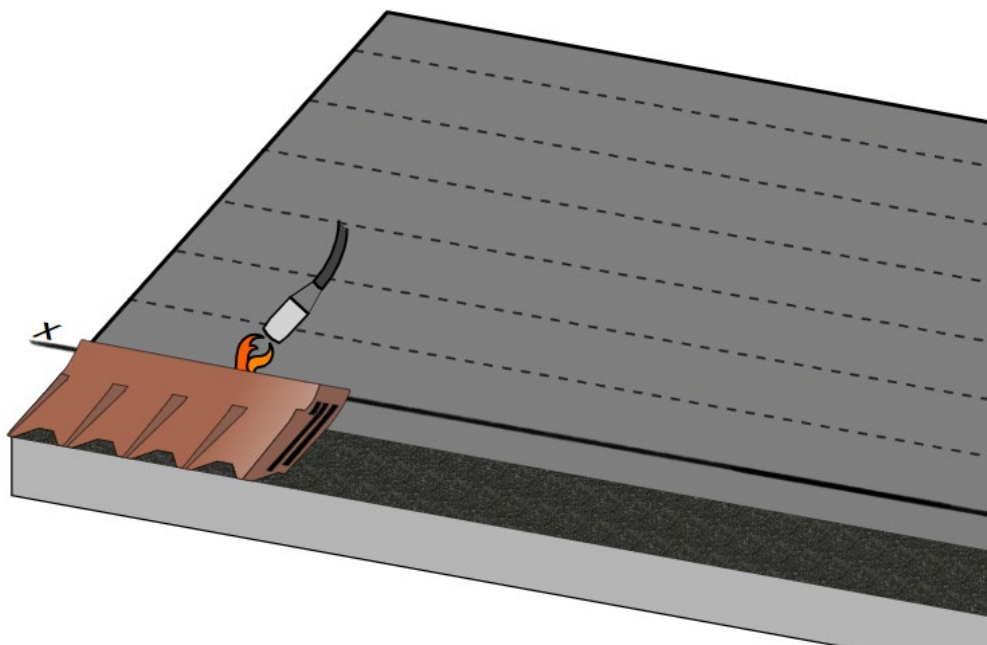

Fig. 22 - Installation of the first Master Coppo shingle by torch
- Fix the shingle to the underlying membrane using the torch flame, lifting the upper edge of the shingle with a suitable tool. Direct the flame towards the membrane to melt only the membrane. The back of the shingle will only be heated. Then lower the Canadian shingle and press it down (for example, by applying pressure with a foot) to aid the bonding of the bitumen between the two elements: the shingle and the membrane. The self-adhesive backing of the Master Coppo underlayment will secure the first shingle to the underlying starting line - Fig. 22.